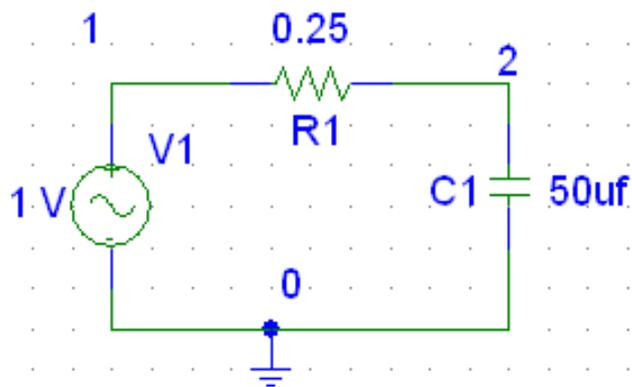

Figure 2: Circuit for Example 2
- Go to Figure 2. Use pen and paper to find the expression of voltage (magnitude and phase) at node 2 in terms of frequency ( $f$ , where  $f = 2 \times \pi \times f$ ).
- Determine the cut off frequency of the filter shown in Figure 2: equate the expression of the voltage at node 2 to  $1/\sqrt{2}$  and find the corresponding frequency.
The circuit in Fig. 2 is a first-order low-pass filter. Since we want the gain of this filter, it is convenient to make the input voltage 1 volt so the output voltage is numerically equivalent to the gain. However, the post-processor within PROBE is fully capable of performing arithmetic such as dividing the input voltage into the output voltage.
Use  $6\angle 0$  in the circuit of figure 2. Perform frequency Sweep and Plot the gain by the method you devised. At what decibel do you get the cutoff frequency this time? Does the cutoff frequency depend on source voltage?
3. Cascade the low-pass and high-pass filters shown in figure 2 and figure 6 and form a band pass filter.